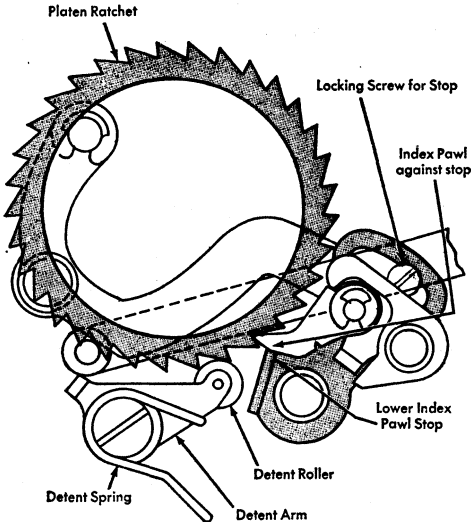

Figure 52. Lower Index Pawl Stop Adjustment
22. THE LOWER INDEX PAWL STOP is adjusted to stop the downward movement of the line space mechanism when the detent roller is positioned between two teeth on the platen ratchet. Check this by pulling on the carriage return tape until the index pawl strikes the lower stop. Then slowly relax the tension. There should be no further rotation of the platen, either forward or backward (Figure 52).